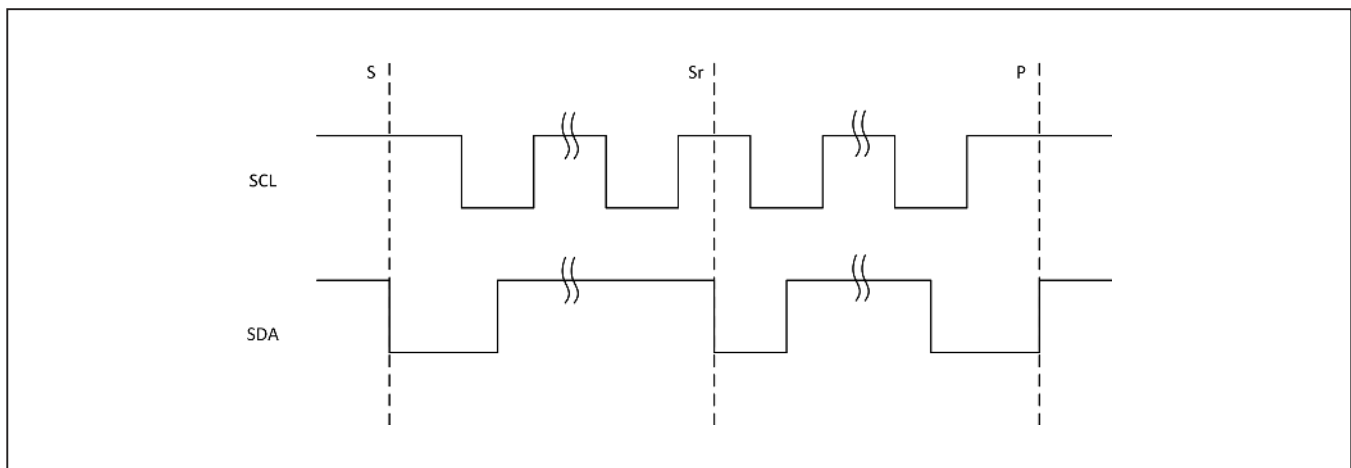

Figure 30. START, STOP, and REPEATED START Conditions
The MAX98372 features an I²C 2-wire serial interface consisting of a serial data line (SDA) and a serial clock line (SCL). SDA and SCL facilitate communication between the IC and the master at clock rates up to 400kHz. Figure 30 shows the 2-wire interface timing diagram. The master generates SCL and initiates data transfer on the bus. The master device writes data to the IC by transmitting the proper slave address followed by the register address and then the data word. Each transmit sequence is framed by a START (S) or REPEATED START (Sr) condition and a STOP (P) condition. Each word transmitted to the IC is 8 bits long and is followed by an acknowledge clock pulse. A master reading data from the IC transmits the proper slave address followed by a series of nine SCL pulses. The IC transmits data on SDA in sync with the master-
SDA and SCL idle high when the bus is not in use. A master initiates communication by issuing a START condition. A START condition is a high-to-low transition on SDA with CL high. A STOP condition is a low-to-high transition on SDA while SCL is high (Figure 30). A START condition from the master signals the beginning of a transmission to the IC. The master terminates transmission, and frees the bus, by issuing a STOP condition. The bus remains active if a REPEATED START condition is generated instead of a STOP condition.